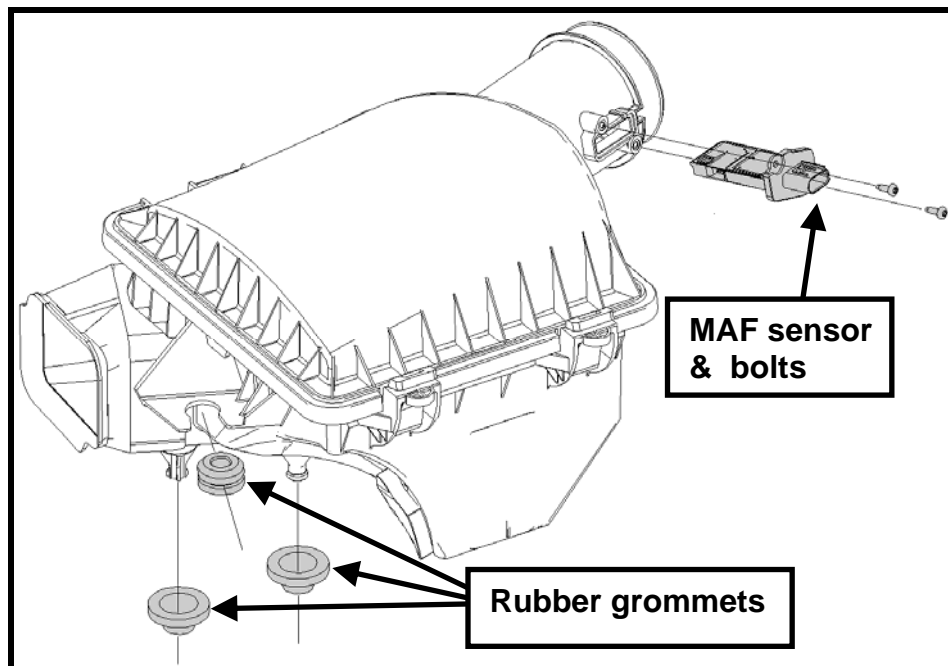

Fig. 6
STEP 8: Remove the three grommets, MAF and MAF bolts from the factory airbox (See Fig. 6). These will be reused later.